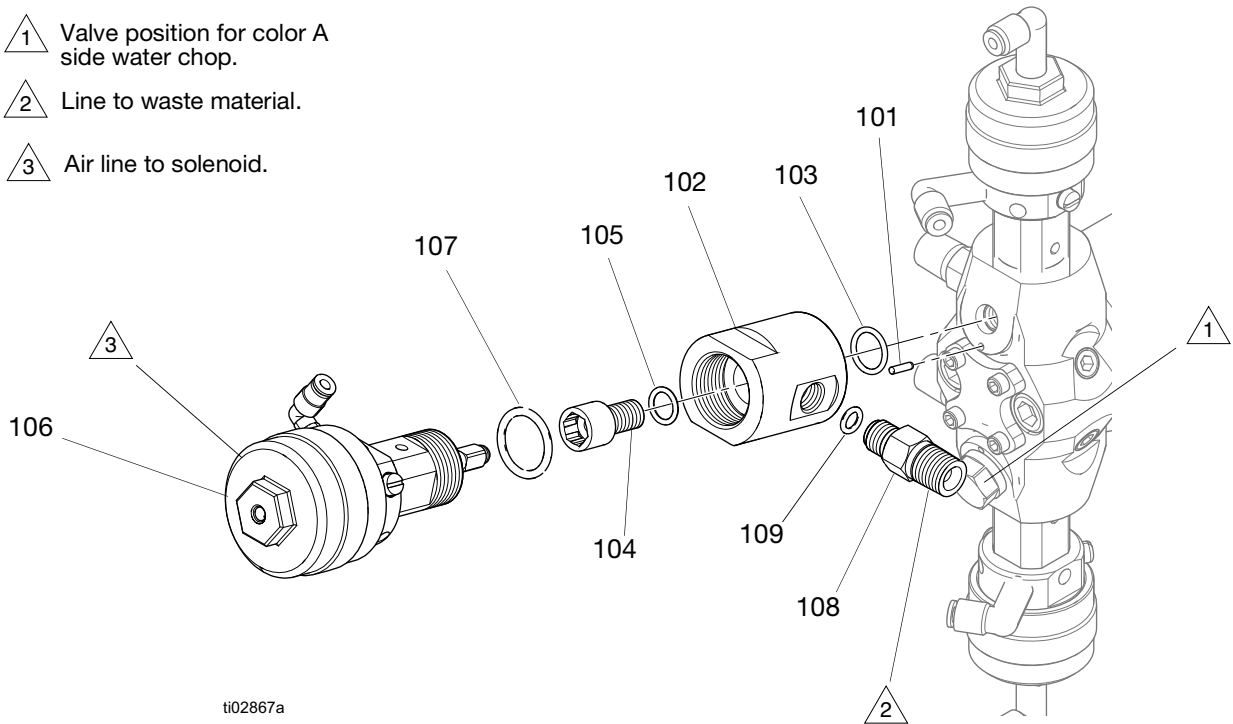

FIG. 4
7. Install the dowel pin (101) into the mix manifold, as shown in FIG. 4.
8. Install the assembled mix manifold sampling valve fitting (102), with o-ring (103) and fluid manifold fitting (108), over the dowel pin (101).
- NOTE:** The dowel pin (101) is for location only, and cannot withstand high torque. Support the mix manifold sampling valve fitting (102) with a wrench while tightening.
9. Using a 10 mm hex key, install the manifold bolt (104) with o-ring (105) into the mix manifold sampling valve fitting (102).
10. Install the ptfе o-ring (107) onto the dispense valve (106)
11. Screw the dispense valve (106) into the mix manifold sampling valve fitting (102), and tighten using the flats of the dispense valve and mix manifold sampling valve fitting.